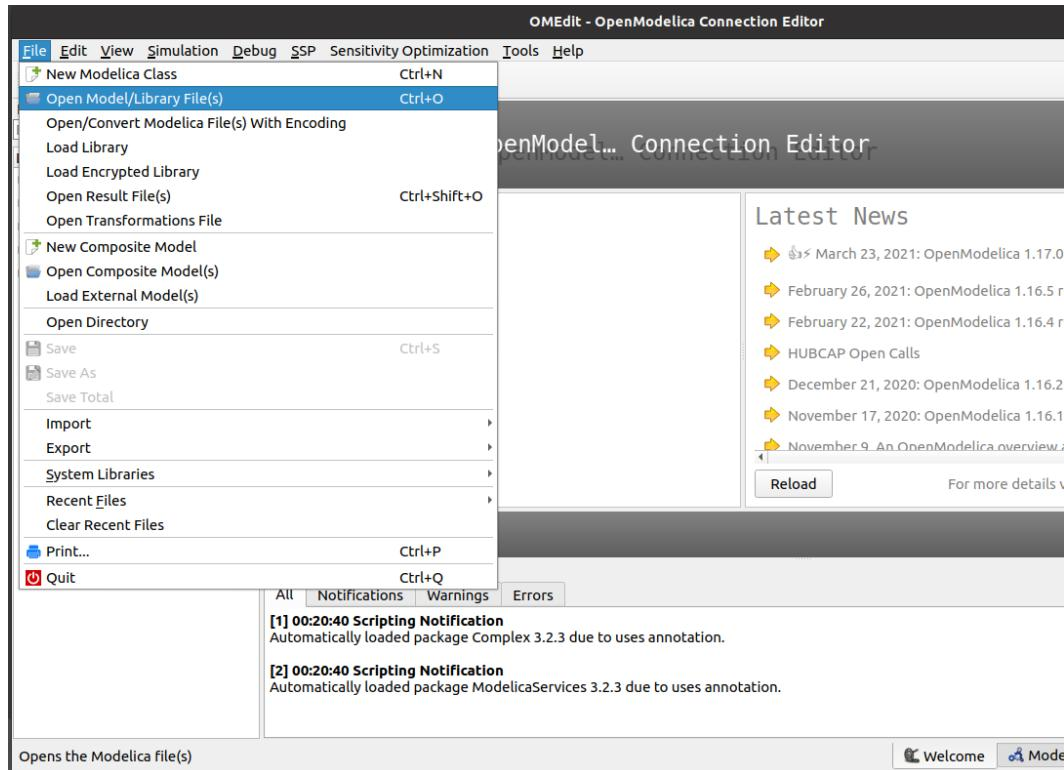

Figure 3.37: Opening a model in OMEdit
The files or models in OpenModelica have ‘.mo’ extensions. Though there are several ways to simulate or run an OpenModelica model, we will execute the models by utilizing the user interface of OMEedit. To open a model in OMEedit, go to the menu bar of OMEedit and click on File -> Open Model/Library File(s), as shown in Fig. 3.37. Then, select the desired model (with ‘.mo’ extension) and click Open. The names of tabs in this book have been mentioned according to OpenModelica 1.17.0. You might observe a bit of difference in these names while working with other versions of OpenModelica.
2. After launching, we have to load OpenModelica-Arduino toolbox. To do so, go to the menu bar of OMEdit. Click on **File** and then click on the **Open Model/Library File(s)** option as shown in Fig. 3.37.